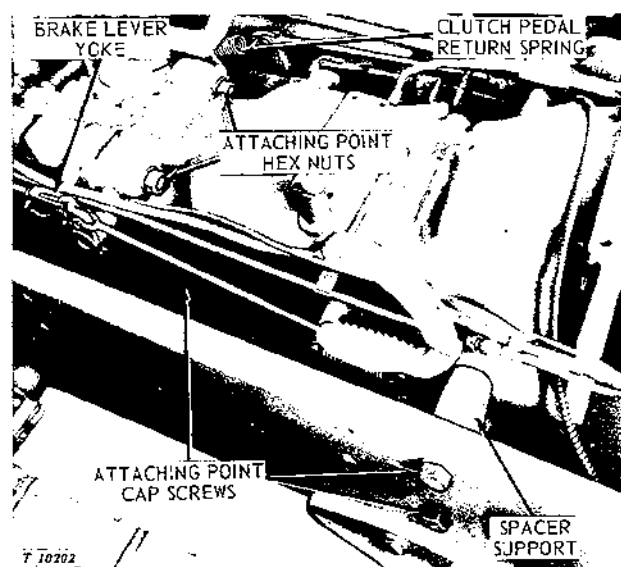

Fig. 20-10-2—Reverser Case or Clutch Housing Attaching Points
8. Disconnect clutch pedal return spring (Fig. 20-10-2).
12. Remove two hex. nuts from clutch housing or reverser case-to-transmission top studs (Fig. 20-10-2).